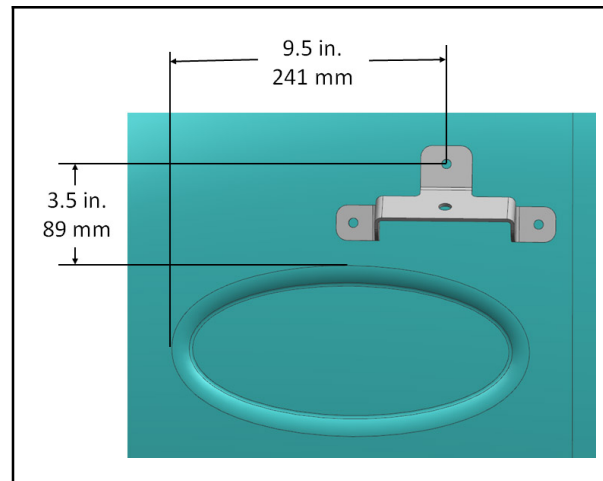
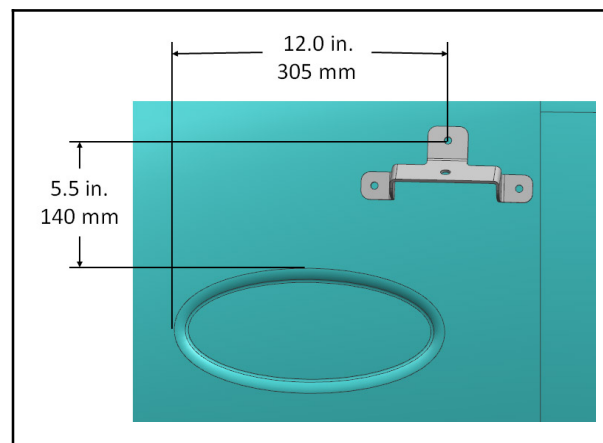

FIG. 2 - M20/T20
FIG. 3 - M30
1. Position the front cover spotlight mounting bracket (3) onto the front cover and mark the locations for the three front cover spotlight mounting bracket mounting holes onto the front cover. (Fig. 2/Fig. 3)
2. Drill a 0.375 in. (9.5 mm) hole completely through each hole marked on the front shroud in the previous step. Drill completely through both sides of the shroud. **Do Not** drill into any parts/components located behind the front shroud. (Fig. 2/Fig. 3)